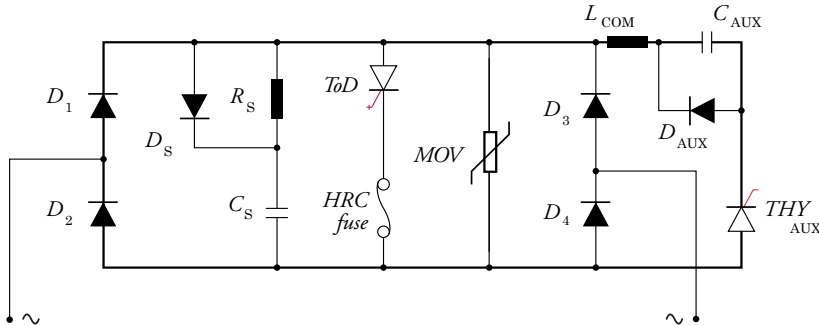
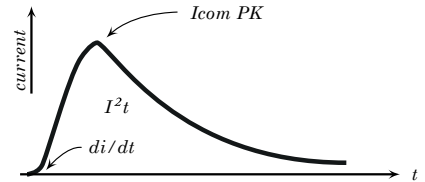

Fig. 1 – Circuit diagram of the Thycon HSEF
Fig. 2 – Fuse discharge pulse
- B. A fuse with a high current carrying capacity carries the rated current and normal overloads. When a fault is detected, a current pulse is added to the fuse from a discharge circuit which causes the fuse to see far more current than the fault represents at the instant of detection, thus rupturing the fuse long before the prospective current can be reached. The fuse is then replaced. This is known as the THYCON HSEF (Fig. 1).
Referring to Fig. 1, energy is stored in capacitor C_{AUX} . When the detection circuit determines that the fault should be limited, thyristor THY_{AUX} is fired. This discharges the capacitor energy into the HRC fuse via L_{COM} , D_{AUX} and THY_{AUX} . Because the thyristor has a finite di/dt capability, L_{COM} is made saturable so that the current ramps up at, say $200A/\mu s$ for a few microseconds and then at a much greater rate which causes a very large value of I^2t to be deposited in the fuse, quickly bringing it to fusion and limiting the current by the opposing arc voltage. The current waveform through the fuse is shown in Fig. 2.